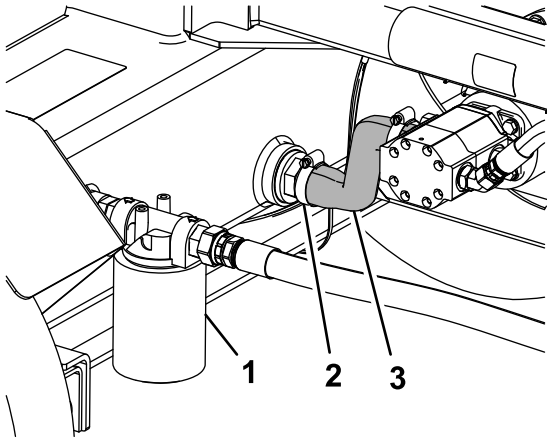

Figure 36
2. Place a drain pan under the suction hose connected to the reservoir tank (Figure 36).